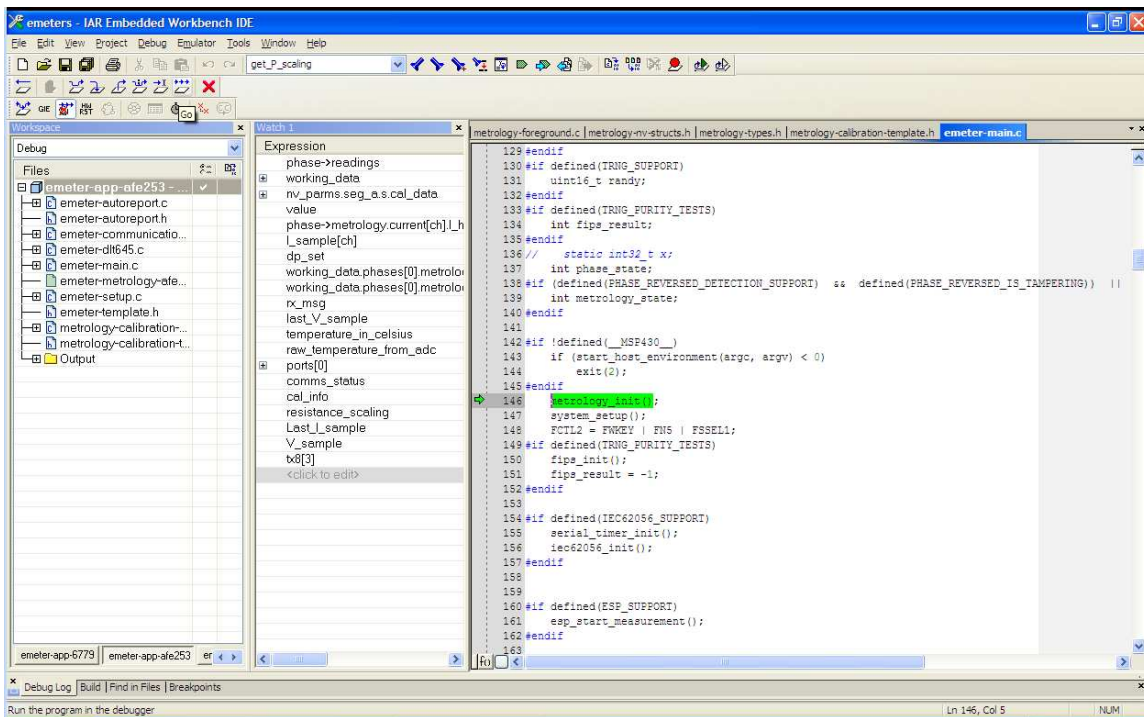
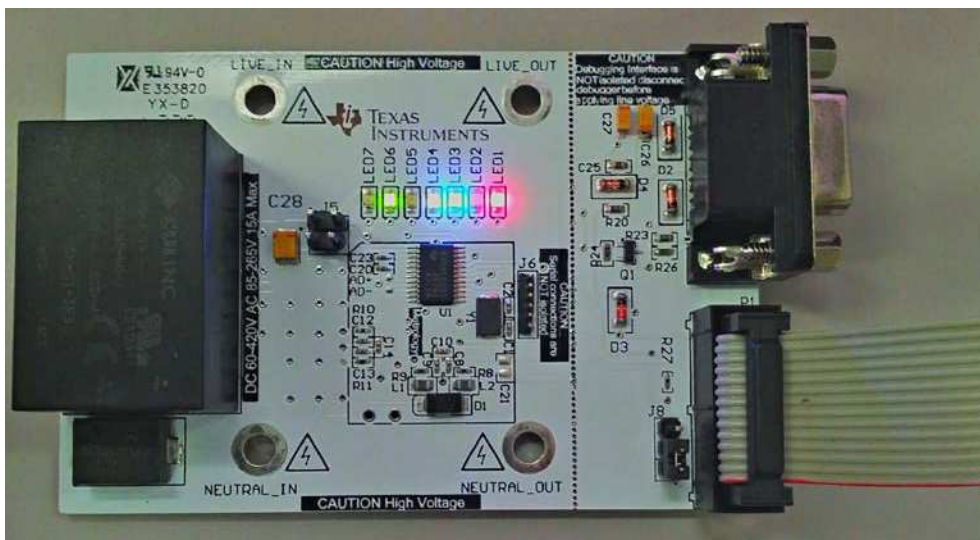

Figure 24. Debugger Screen
Figure 25. EVM Running
10. After downloading is completed and succeed Figure 24 will appear. Click [Go] to start application running. (See Figure 25)